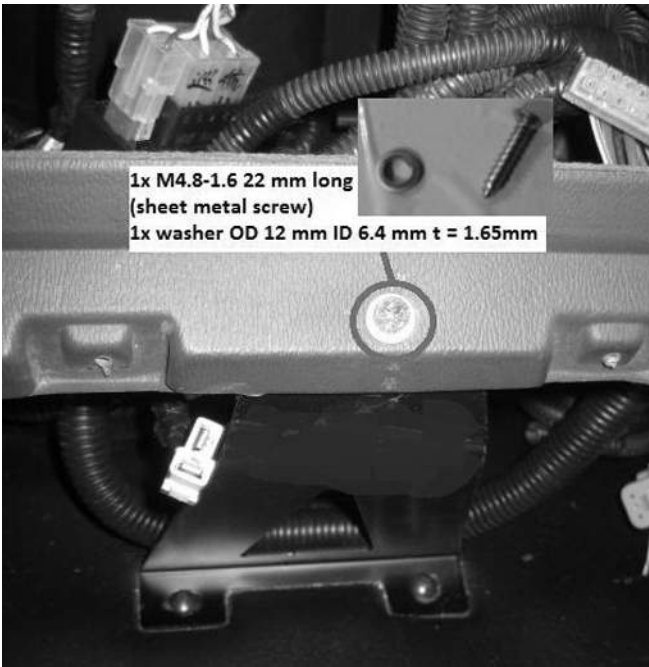

Figure 21-1
1. Reinstall the screw and washer (see Figure 21-1).